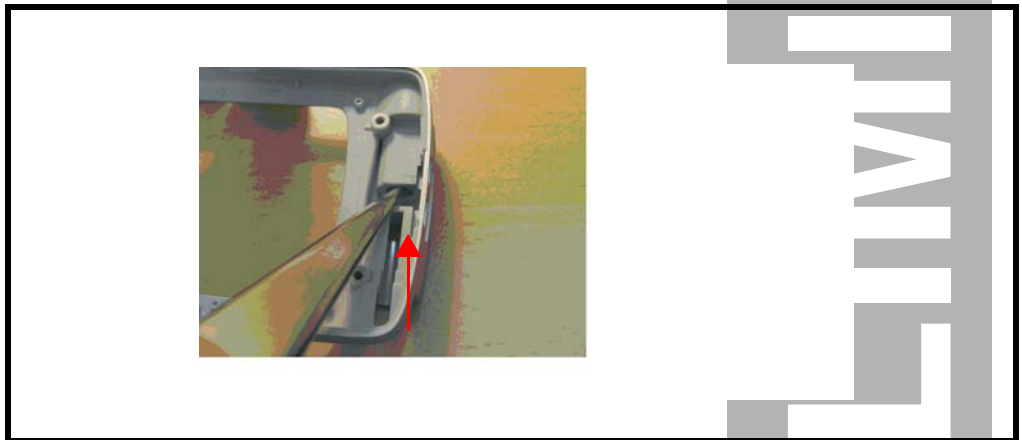

Figure 43. Removing the hinge
4. Push the hinge out from Case-C as shown in Figure 43.